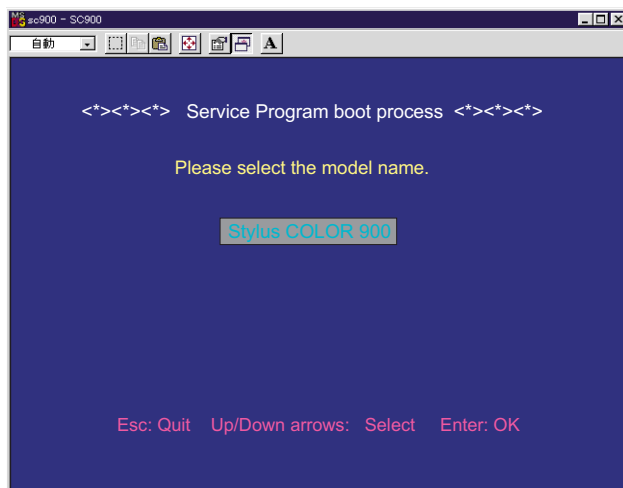

Figure 5-1. Screen after Start-up Sequence
- 9-2. No: Select this to return to the initial screen (Figure 5-1), which lets you correct the wrong selection made in Step 5 or Step 6.